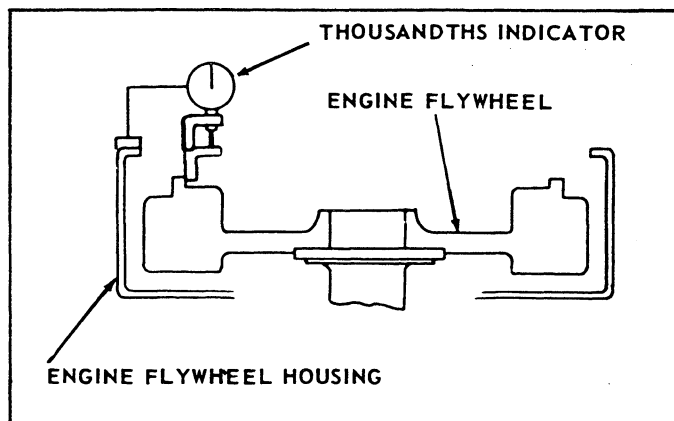

Figure 68. Checking the Driving Ring Pilot Bore of the Engine Flywheel.
G. Checking Driving Ring Pilot Bore of Engine Flywheel. With the indicator bolted as in Paragraph 56F above, adjust the indicator stem so that it will ride on the driving ring pilot bore of the engine flywheel (Fig. 68). The driving ring pilot bore eccentricity of the engine flywheel should not exceed .005 inch maximum total indicator reading.